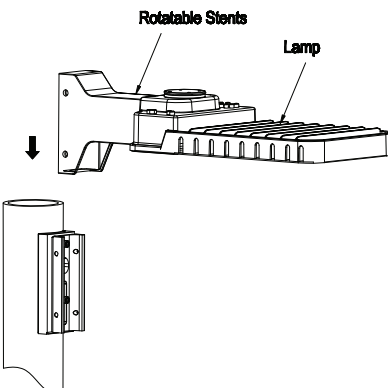

FIG. 11
2. Insert the fixture onto the adapter (see **FIG. 11**)